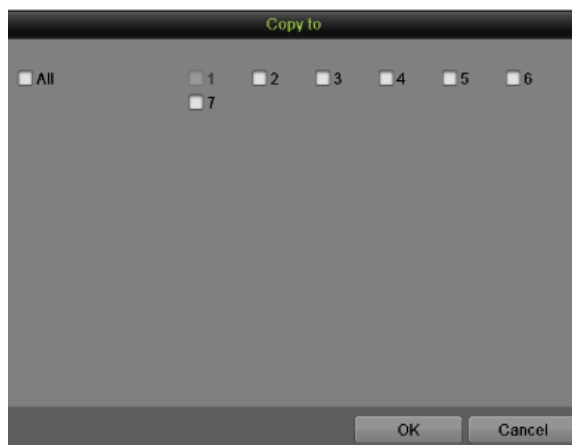

Figure 51 Copy to
- 5) Repeat the above steps to set record schedule for other days in this week. If the schedule can also be applied to other days, click the Copy button to pop-up a Copy to box, as shown in Figure 51.